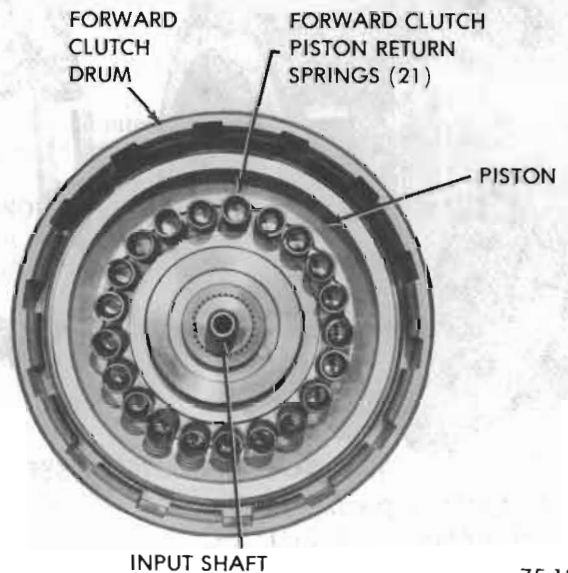

Figure 75-187
5. Remove twenty-one (21) clutch return coil springs. See Figure 75-187.
3. Install twenty-one (21) clutch return coil springs. See Figure 75-187.